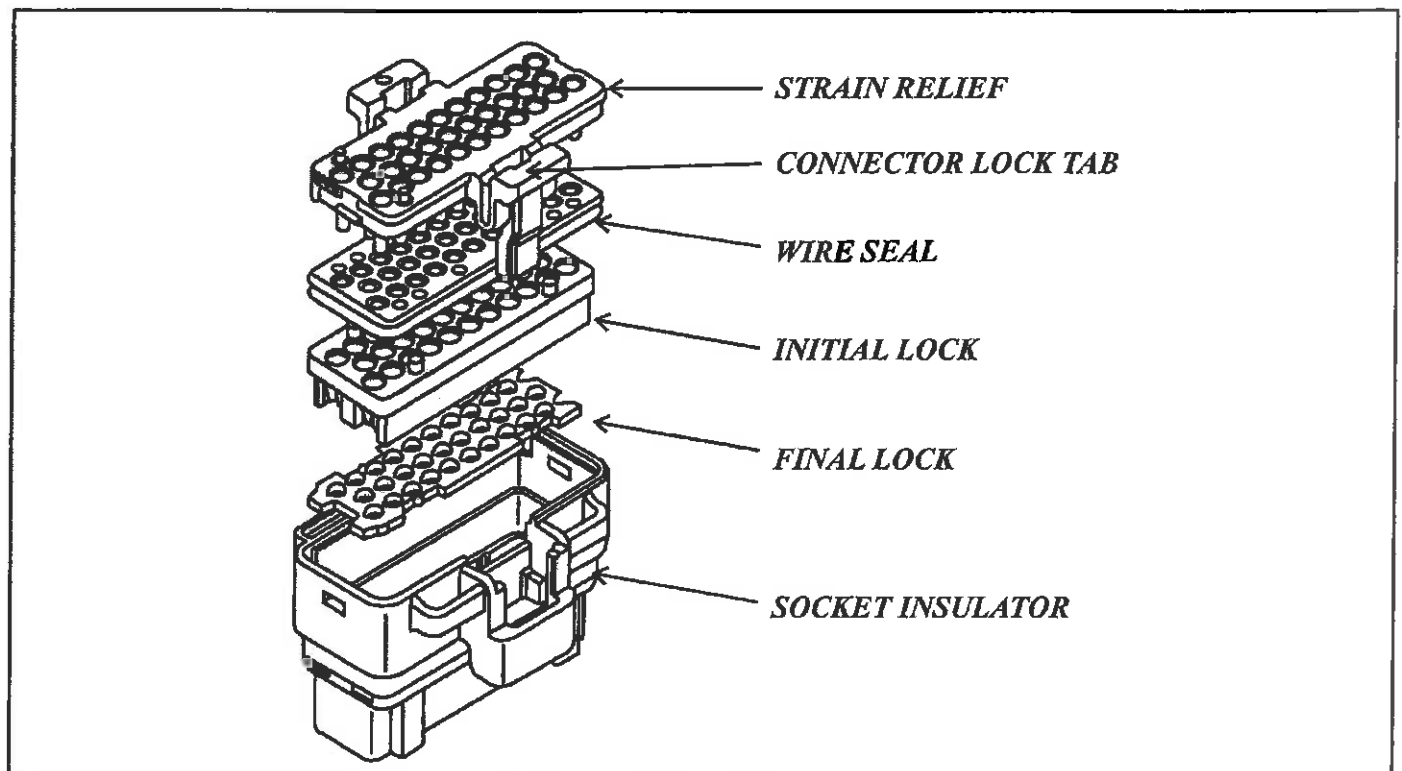

Figure 3
4. Locate and inspect the connector lock tab and insulator for damage (See Figure 3). If it is damaged, the entire connector will need to be replaced.
6. Next, pull on the wires individually. If they come out the connector will need to be disassembled to inspect the initial and final locks (See Figure 3).
9. With all the wires removed from the connector, inspect the entire connector assembly as seen in Figure 3. If any of the parts are damaged, replace the connector assembly.